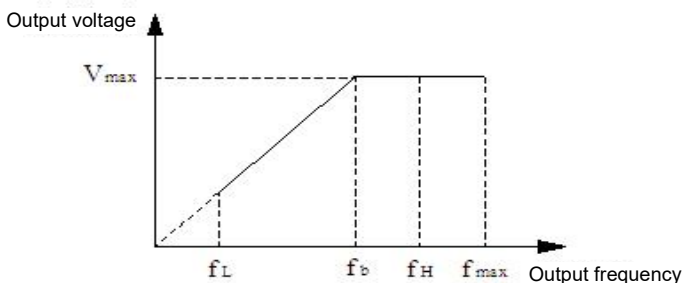

Figure 00-1 Schematic diagram of voltage and frequency
The maximum output frequency is the highest frequency allowed by the inverter, which is the benchmark for setting acceleration and deceleration time, as shown in the figure f_{max} below. The basic operating frequency is the minimum frequency corresponding to the highest voltage output by the inverter, which is generally the rated frequency of the motor, as shown in the figure below. The maximum output voltage V_{max} is the corresponding output voltage when the inverter outputs the basic operating frequency, which is generally the rated voltage of the motor; V_{max} : as shown in the following figure; FH and FL are defined as upper limit frequency and lower limit frequency respectively, as shown in Figure 00-1:
4. The relationship among maximum output frequency, upper limit frequency and lower limit frequency is shown in the above figure 00-1. Please pay attention to the order of magnitude when setting.